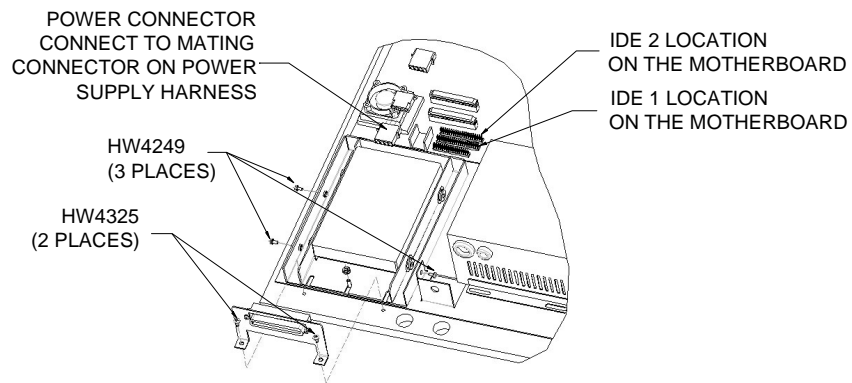

FIGURE 10 - HARD DRIVE/CENTRONICS INSTALLATION
14. Connect the 2 x 20-pin IDE ribbon cable on the hard drive to the IDE-1 location on the motherboard. (Make sure that the red stripe on the ribbon cable matches up with pin-1 on the IDE-1 location on the motherboard.) See Figure 10 for location.
15. Connect the (4)-pin power connector on the hard drive to the mating connector on the power supply harness. See Figure 10.
17. Mount the centronics cable assembly along the front edge of the hard drive adapter plate. Secure the centronics bracket to the CPU shelf using the (2) HW4325 screws. See Figure 10.
18. Connect the 2x20-pin IDE centronics ribbon cable (EC2198-01) to IDE-2 on the motherboard assembly. (Make sure the red stripe on the ribbon cable matches up with pin 1 on the IDE-2 interface connector on the motherboard.) See Figure 10.
19. Connect the (4)-pin power connector on the centronics ribbon cable to the mating connector on the power supply harness.